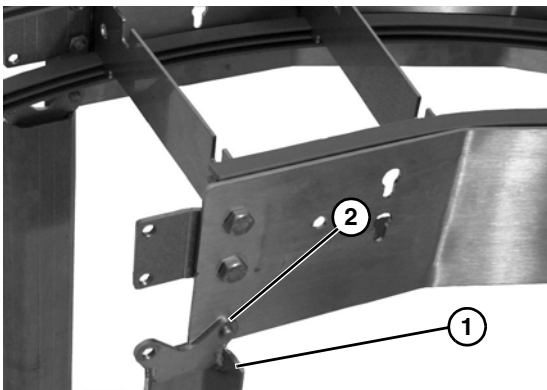

Figure 6
2. When attaching stand (Figure 6, item 1) to curved section on inside curve, make sure mounting hole on stand (Figure 6, item 2) is to the outside of curve section and head of bolt is on the inside of curve section.